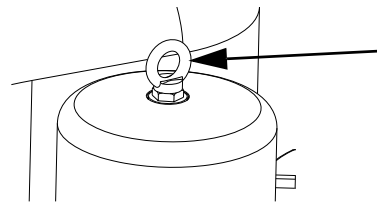

Fig. 29 Lifting eye
- Unscrew the lifting eye and the nut on top of the motor. See fig. 29.